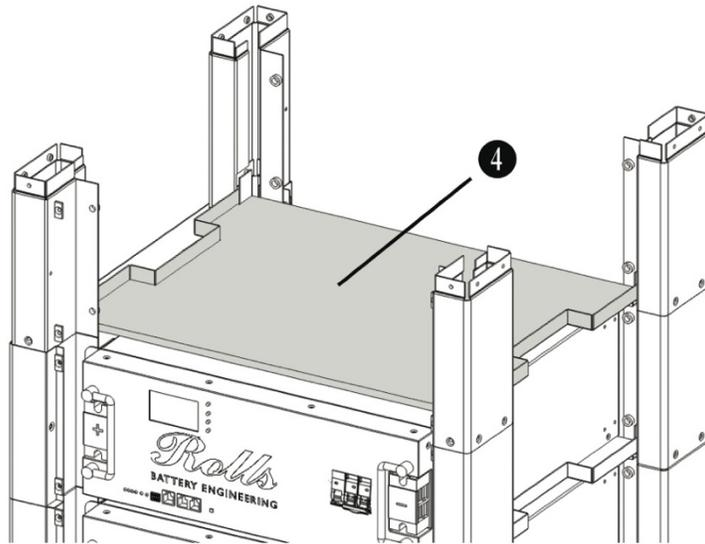

Figure 2.0
Install the tray ④ as shown in Figure 2.0, locking the tabs into place on each of the four columns to secure.
- 1.4 Install the 2nd Rolls LFP ESS battery ⑤ on the tray and fasten on each side using two 12mm M6 hex bolts as outlined in step 1.2.